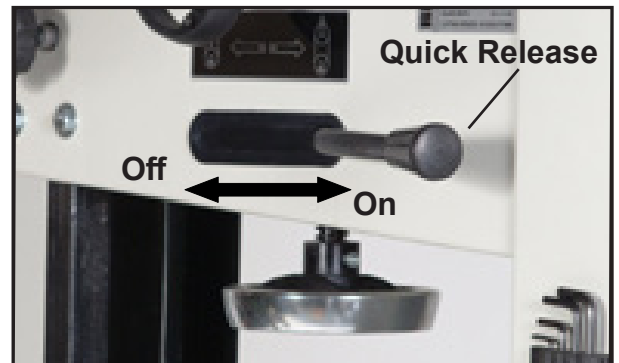

FIG. 15
The 10-370 has a quick release blade function which allows for fast blade changing and tensioning. The quick release lever extends from the rear of the saw. FIG. 15.
2. Release the blade tension by moving the quick release lever from right to left. FIG. 15.